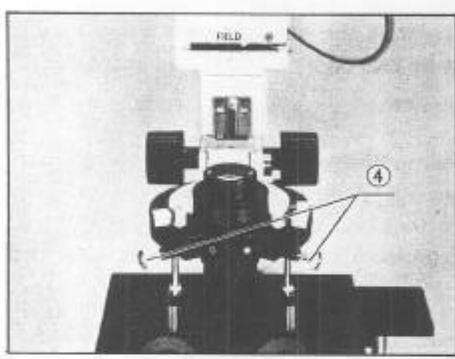

Fig. 34
- 5) Press the light annulus centering knobs ④ and rotate them until both annuli are concentric and superimposed, then slowly disengage the centering knobs ④. (Fig. 34)